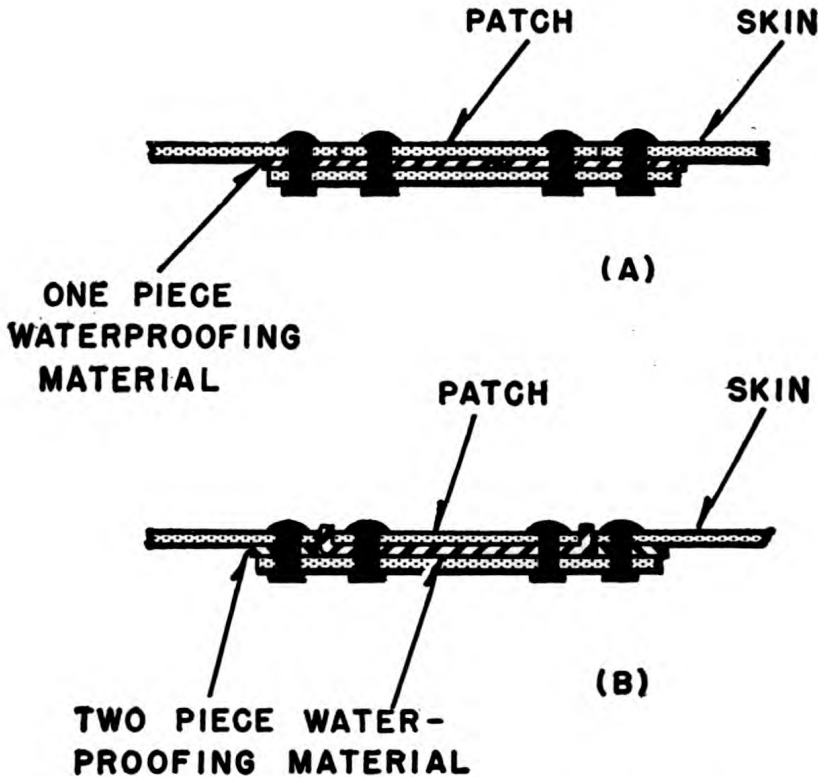

Figure 120.—Inserting waterproofing material.
When a solid backup plate is used, the waterproofing fabric may be solid. That is, it may extend over the entire area of the opening as in figure 120 (A).